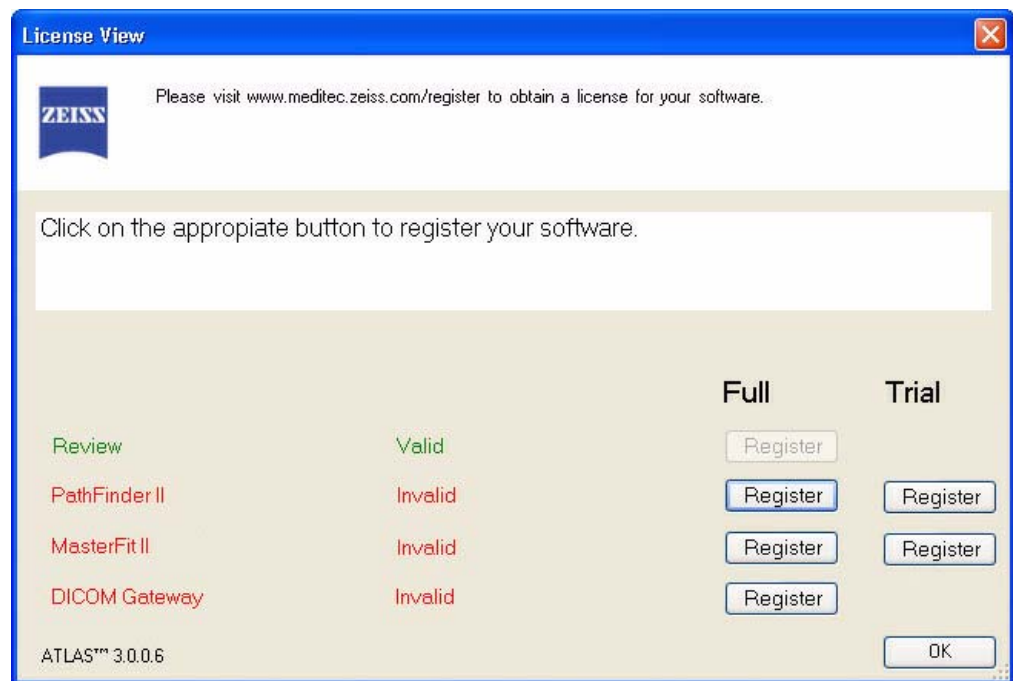

Figure I-8 License View Window with Full Review License Registered
13. The LICENSE VIEW window (Figure I-8) is displayed with the Full license registered. Select **OK** to begin using the software.